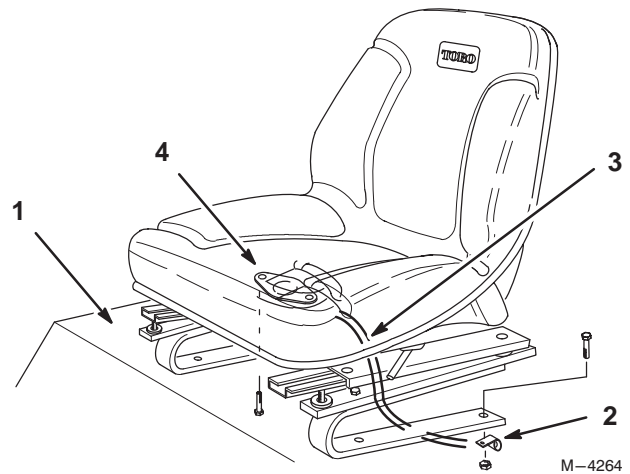

Figure 1
1. Position the seat assembly onto the seat plate, aligning the mounting holes (Fig. 1).
2. Slide the wire clamp over the seat switch wire (Fig. 1).
3. Using the left front hole, loosely secure the wire clamp and seat to the seat base with capscrews and locknuts (Fig. 1).
5. Route the seat switch wire through the slot in the seat plate and plug the connector onto the seat switch (Fig. 1).